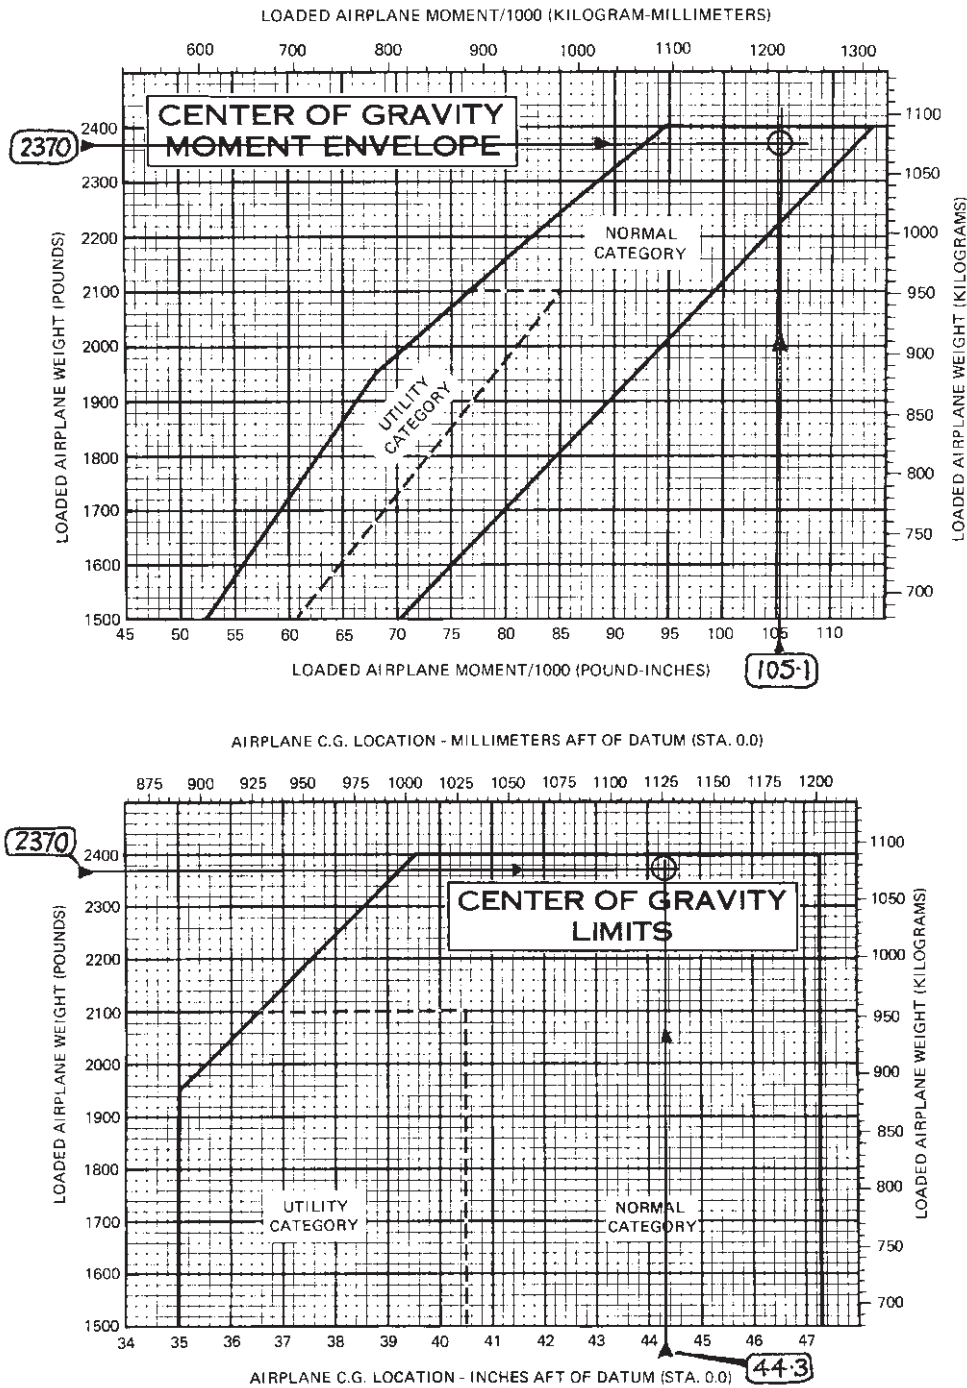

Figure 11-19 Weight-and-balance data.
**Add items 1 to 6
***Plot on CG Moment envelope Graph in figure 11-19 (page 299)
The two graphs (figure 11-19) tell us the same thing, albeit in a slightly different manner. You need refer to only one of them.
Using the top graph (figure 11-19) avoids the need to calculate the CG position. To illustrate this point, notice that total weight 2,400 pounds and total moment 113,500 pound-inches places the airplane on the extreme limit of the CG moment envelope. If you go ahead and calculate the CG position for this case, you will get: